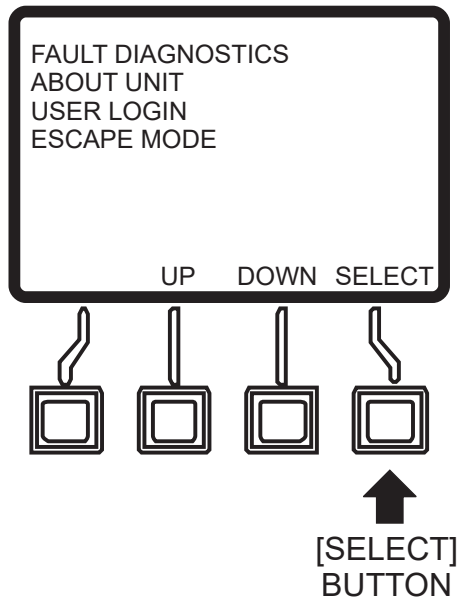

Figure 93. Main Menu (Select Button)
- Press the **[SELECT]** button (Figure 93) to enter the “Escape Mode” menu.